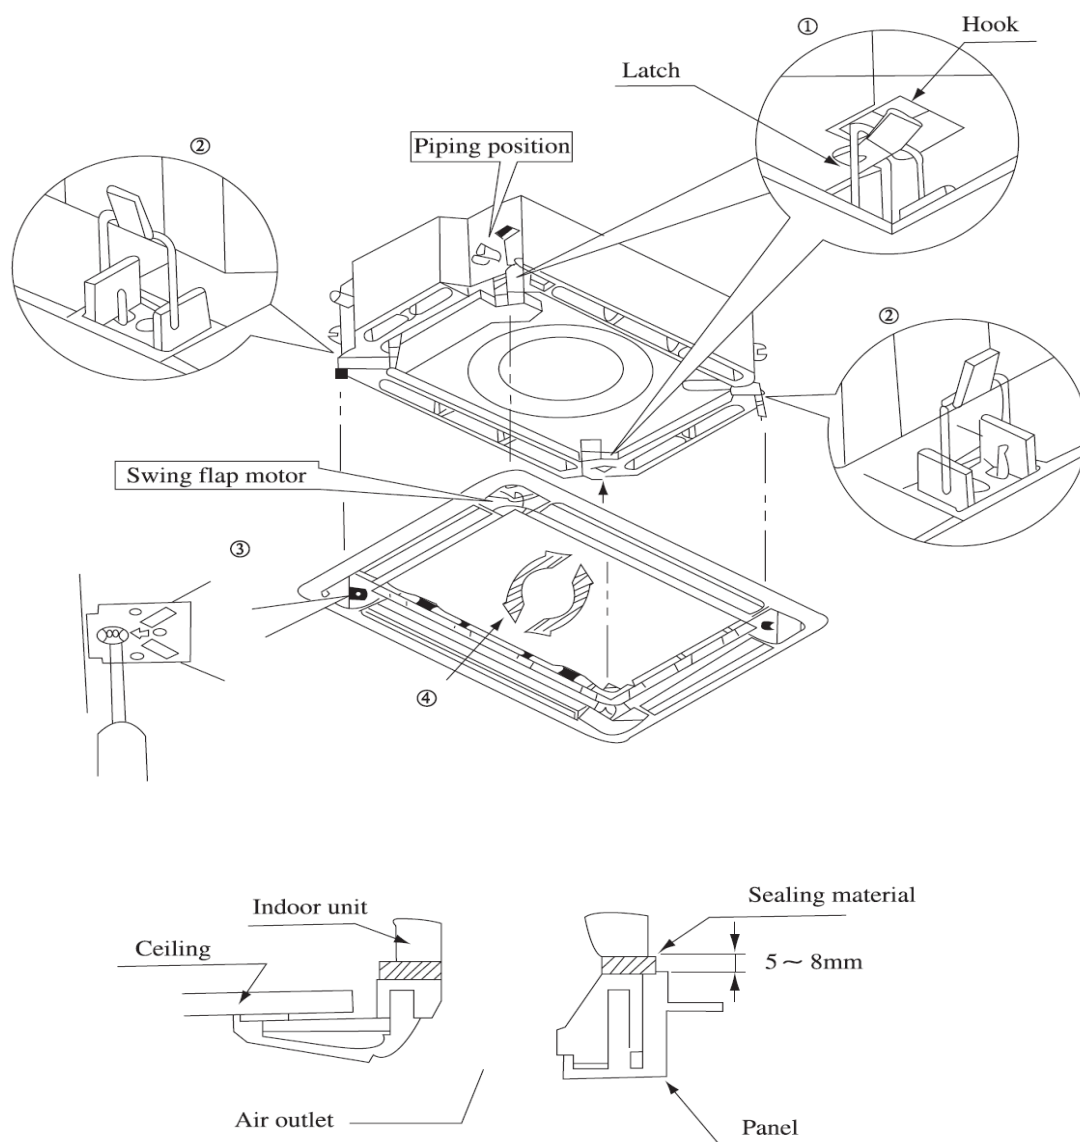

Fig 4
- Set the panel to the indoor unit body by matching the position of the swing flap motor of the decoration panel to the piping position of the panel to the piping position of the indoor unit as shown in fig.4.
- 4、 Adjust the panel by turning it to the arrowed direction in Fig.4 so that the ceiling opening is completely covered.